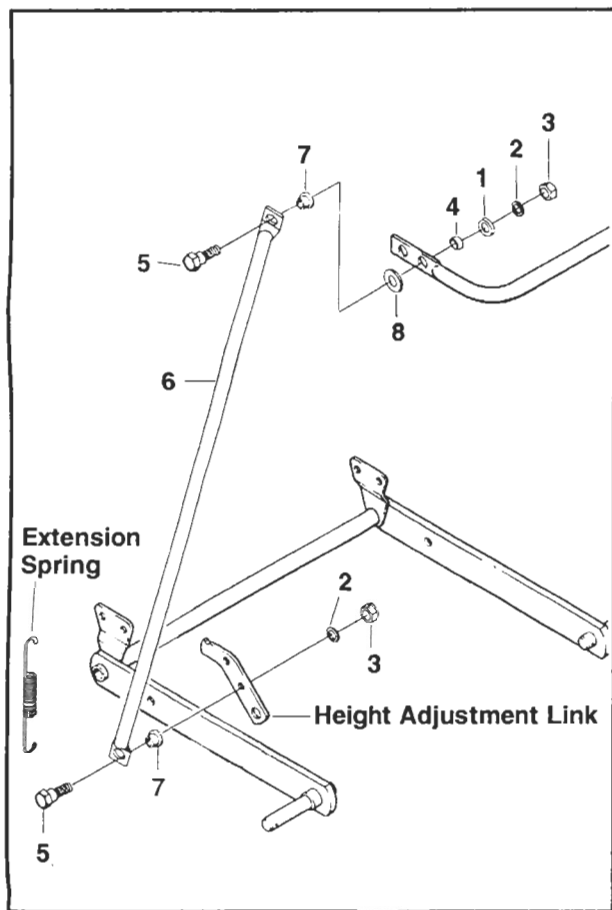

FIGURE 2
5. Attach new control arm with hardware (from kit) exactly as shown in figure 2.
- **BE SURE** the flange side of the split bearings (Part No. 524643) are facing toward the unit as shown in figure 2.